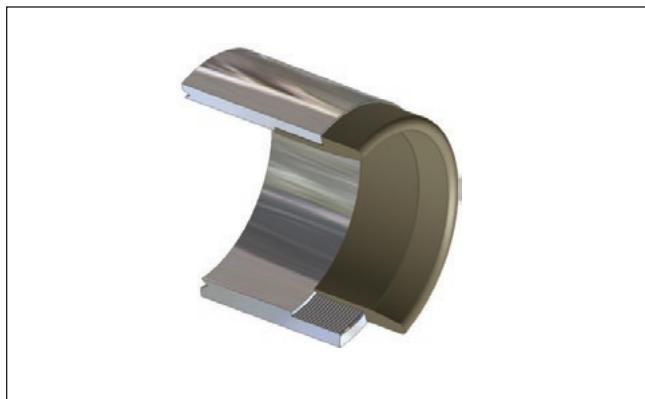

Figure 2-16. Thread protection installation tool cutaway view
- 2. Nick and Cut Protection.** Threads, sharp corners and burrs can damage the seal. Care should be taken to avoid contact with these surfaces. Burrs must be removed, sharp corners should be blunted or radius, and threads should be masked or shielded with special insertion tooling (see Figure 2-16). Although it is good practice to take extra care in the handling and manipulation of the seal, this is seldom sufficient and it usually requires either a safety tool or masking to protect the seal against such damage.